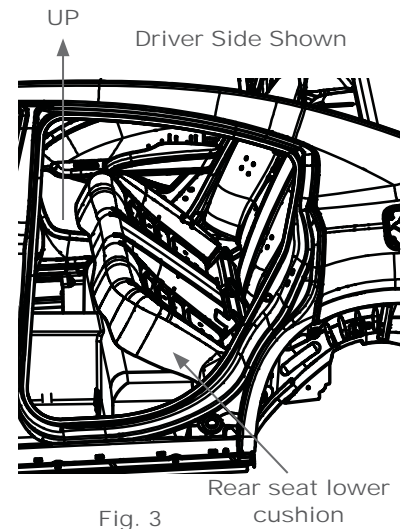

Fig. 3
- A. Lift the lower seat cushion out from the rubber grommets underneath the floor board. Remove the seat cushion from the vehicle. (See Fig. 3)